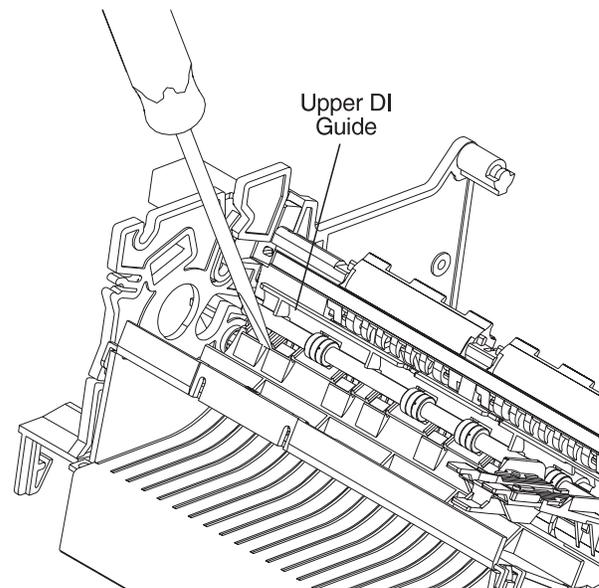

Figure 6-49. Upper DI Guide Removal and replacement
- 5 **LATER STYLE** - Using a screwdriver blade, starting at the left side, pry the guide away from the white tab holding it in place. Repeat this to release the guide from all tabs, left to right. See Figure 6-49.